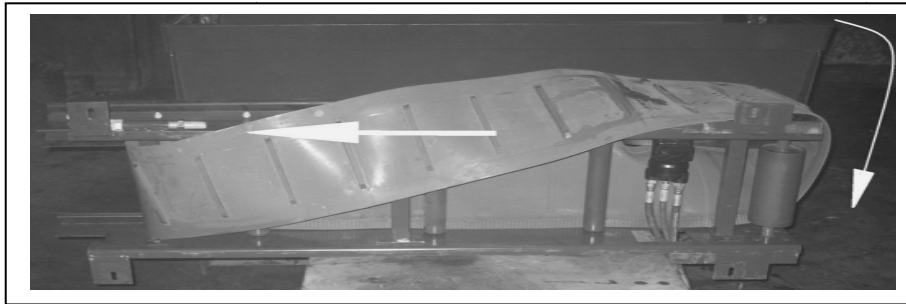

Fig 18
1. As shown in Fig 18, slide the belt onto the conveyor frame. Advisable to wear gloves.